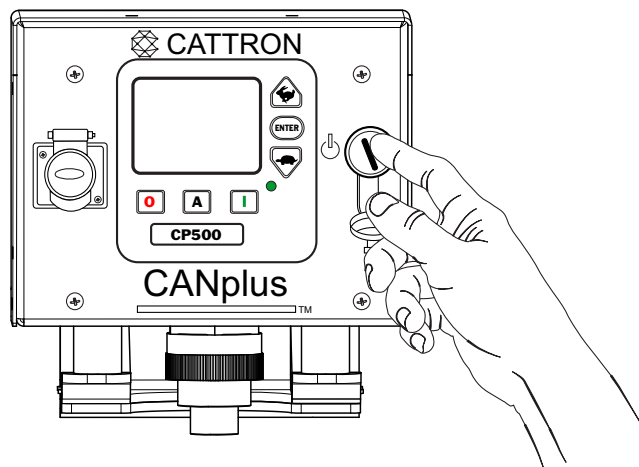

Figure 11. Ignition Switch Start Position
1. Lift the protective plastic cover and insert the ignition key into the ignition switch. Then turn the key to the **START** position (Figure 11).